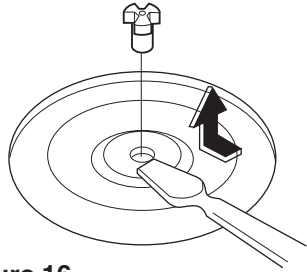

Figure 16
- (1) Remove the turntable.
- (2) Remove the turntable shaft **VERY CAREFULLY** with a slotted screwdriver. (Figure 16)